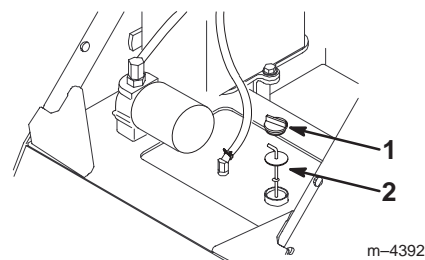

Figure 7
4. Clean the area around the filler neck of the hydraulic tank (Fig. 7).
5. Remove the cap from the filler neck and check the fluid level on the dipstick (Fig. 7).